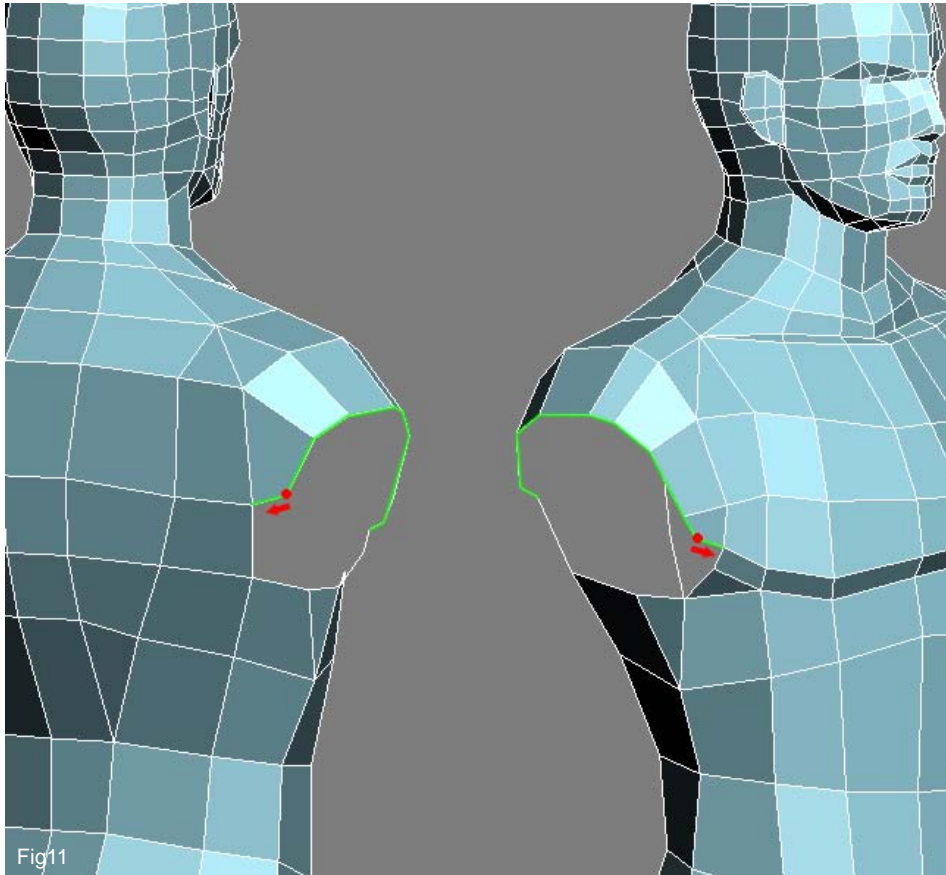

Fig11
11. With the legs finished it is time to extend the arms. Continuing from our torso in the previous tutorial select the top seven edges and extend them to make a new set (green line in Fig11). Now weld the two verts in red to the corners indicated by the arrows.